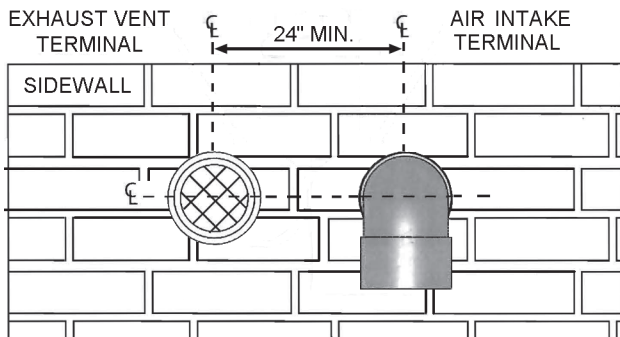

Figure 14
6. If the air intake pipe is installed up to the wall, with a coupling on the end against the wall opening, the pipe with the air intake terminal can be prepared for gluing before inserting through the wall. Slide the pipe through the wall and insert into coupling on the other side of the wall, making sure that the air intake terminal ends up pointed in the correct position (Figure 14 and Figure 15).